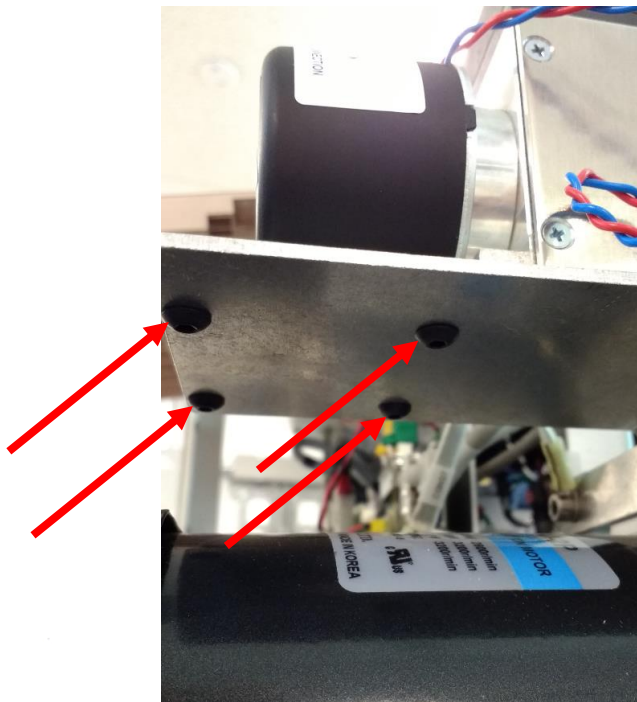

Figure 14: Pump to Plate Connections
7. Remove the diaphragm pump assembly, turn it over and unscrew the four M2 screw holding the pump to the plate (Figure 14: Pump to Plate Connections).